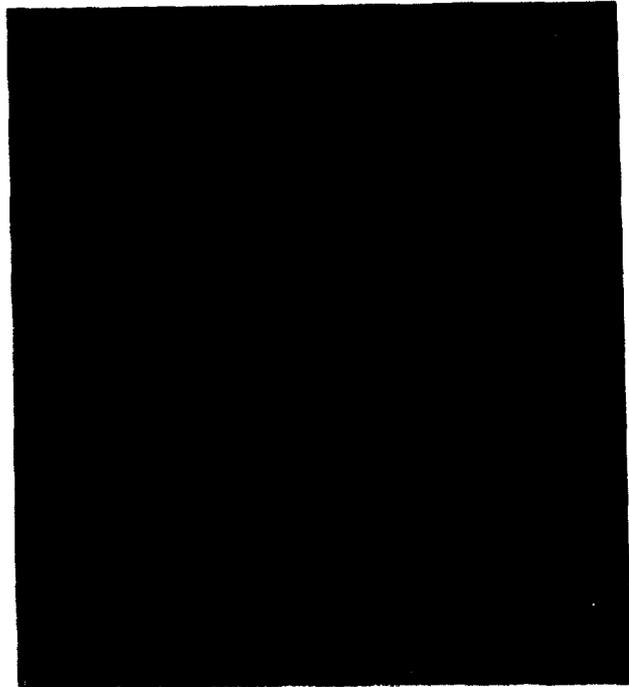

Figure 2-20. Telescope reticle cross-hairs aligned with test receiver.
mark and the vertical cross-hair is in the center of the test receiver as shown in figure 2-20.
(1) Set the toggle switch on the CARR simulator to the OFF position.
(2) Set, the DELAY selector switch on the CARR simulator to CONT.
(3) Place the VELOCITY selector switch on the CARR simulator and the Radar Chronograph M36 to the 70-325 position. Set, the radar chronograph M36 MIC SENS control to 10.
(4) Sight through the XM128 telescope and verify that the sight, picture is as shown in figure 2-20.